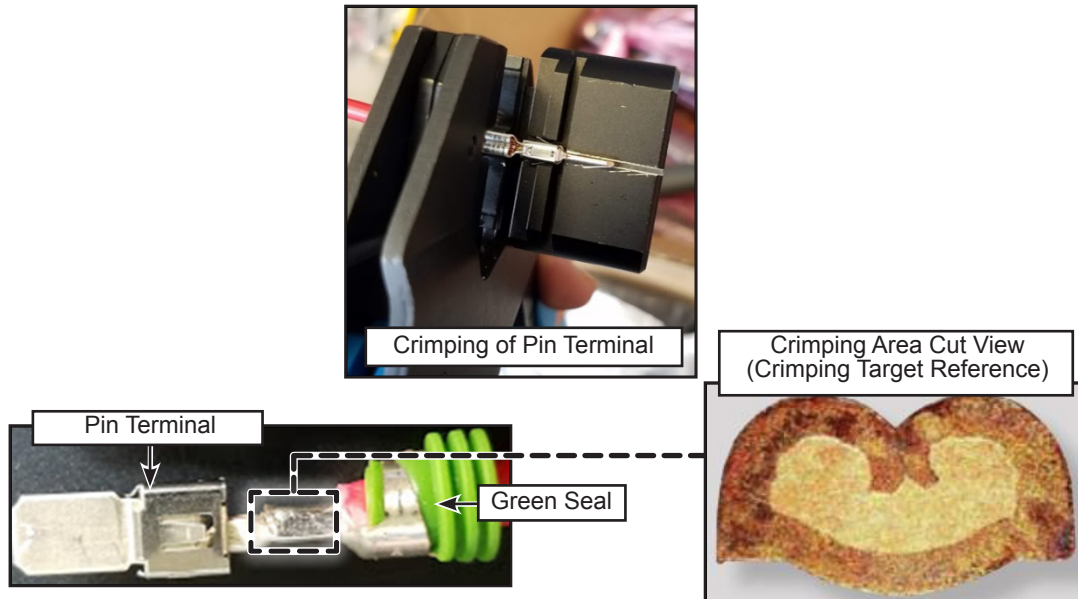

Figure 15 - TE Connectivity HDSCS Pin Terminal and Green Seal
- 1.25. Using the HDSCS crimping tool (see figure 8), crimp the pin terminal PN N97874-02 with the green seal PN N77238 on both RED and BLACK power wires (see figure 15). Refer to the figure below showing a typical HDSCS terminal crimp example and to Annex 1 for more information about the HDSCS connectors terminal crimping quality guidelines.